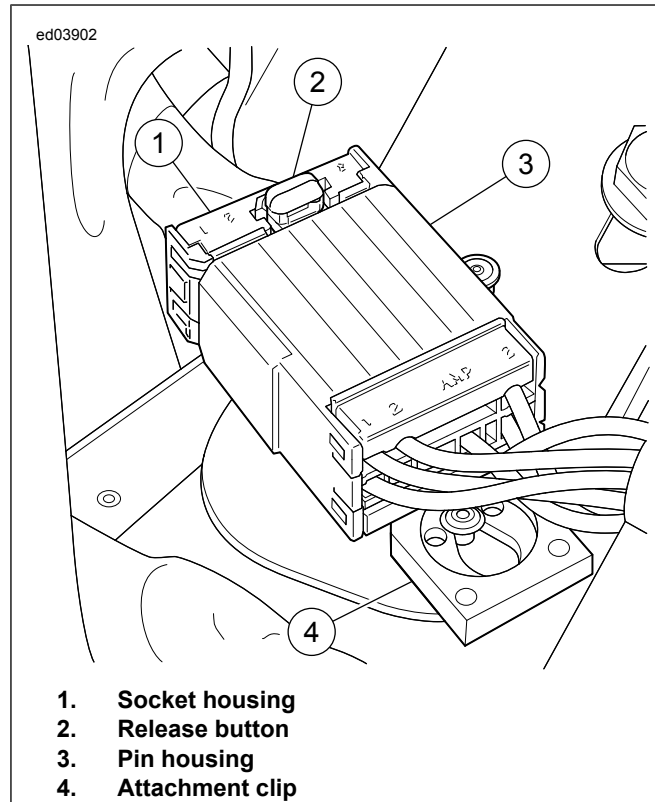

Figure B-51. Tyco Multilock Unsealed Connector
2. See **Figure B-51**. Press the release button and pull the connector halves apart.